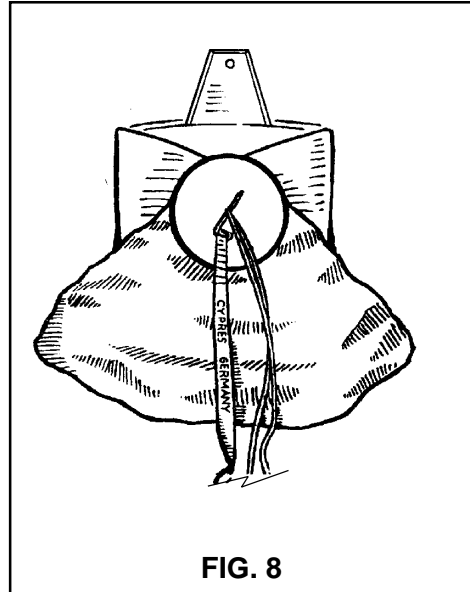

FIG. 8
11. Roll or fold the pilot chute fabric at the top of the pilot chute parallel with the top of the container and push this roll under the top plate of the pilot chute. Draw the rest of the pilot chute fabric down the sides of the pilot chute top plate pushing the excess fabric under the pilot chute top plate as you go (FIG. 8).